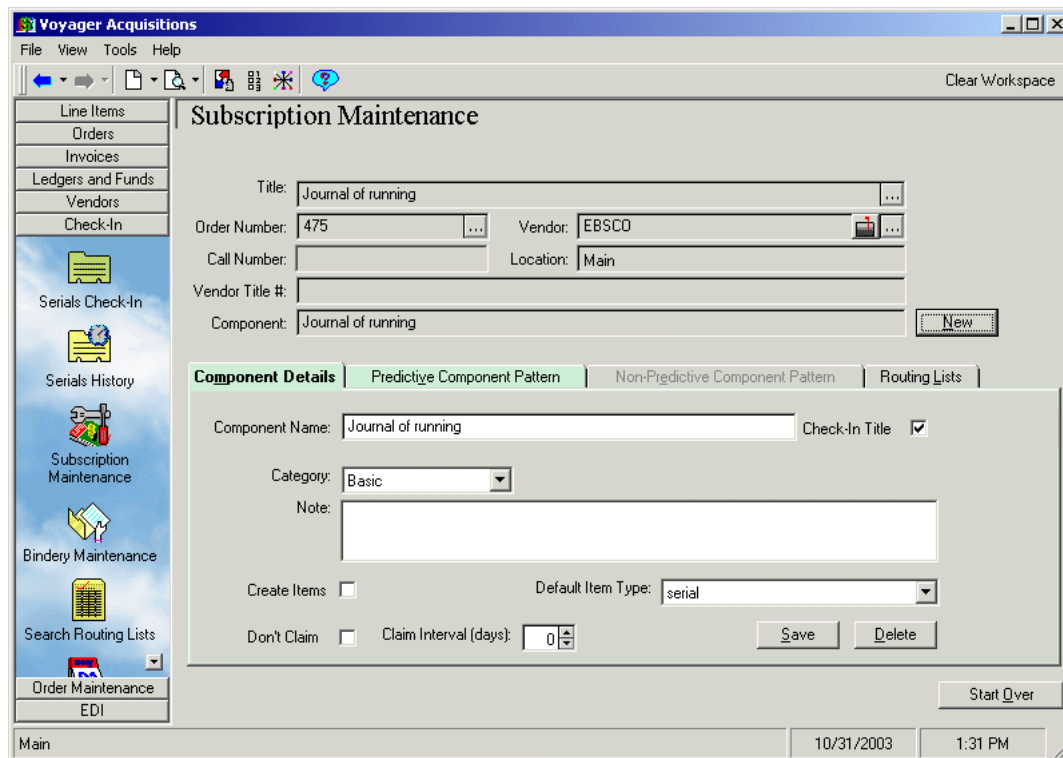

Figure 13-9. Subscription Maintenance workspace - ellipsis displayed beside the Title field
- The **ellipsis** button beside the **Title** field at the top of the **Subscription Maintenance** workspace (see Figure 13-9). See Subscription Maintenance on page 8-1 for more information.